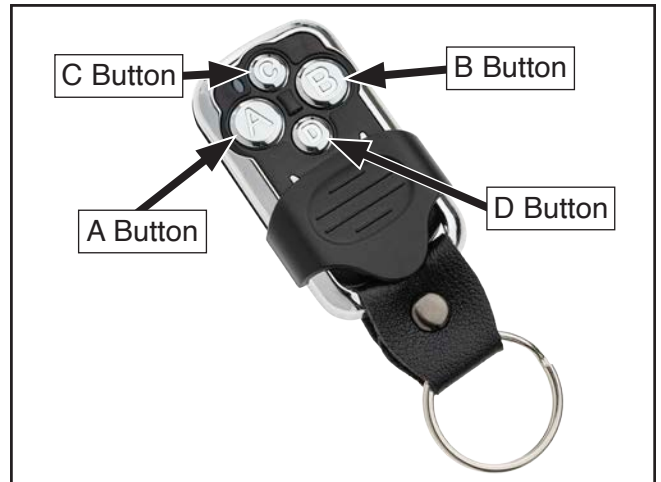

Figure 43. Location of remote control buttons.
3. Simultaneously press and hold D button on remote control and Remote button on control panel (see **Figure 43**) until remote beeps (3) times. Remote should now be paired.
4. Test connection by pressing B button to turn motor **OFF**, then press A Button to turn motor **ON** (see **Figure 43**).
5. Press C button (see **Figure 43**) to cycle through (3) timer settings (1–9 hrs).